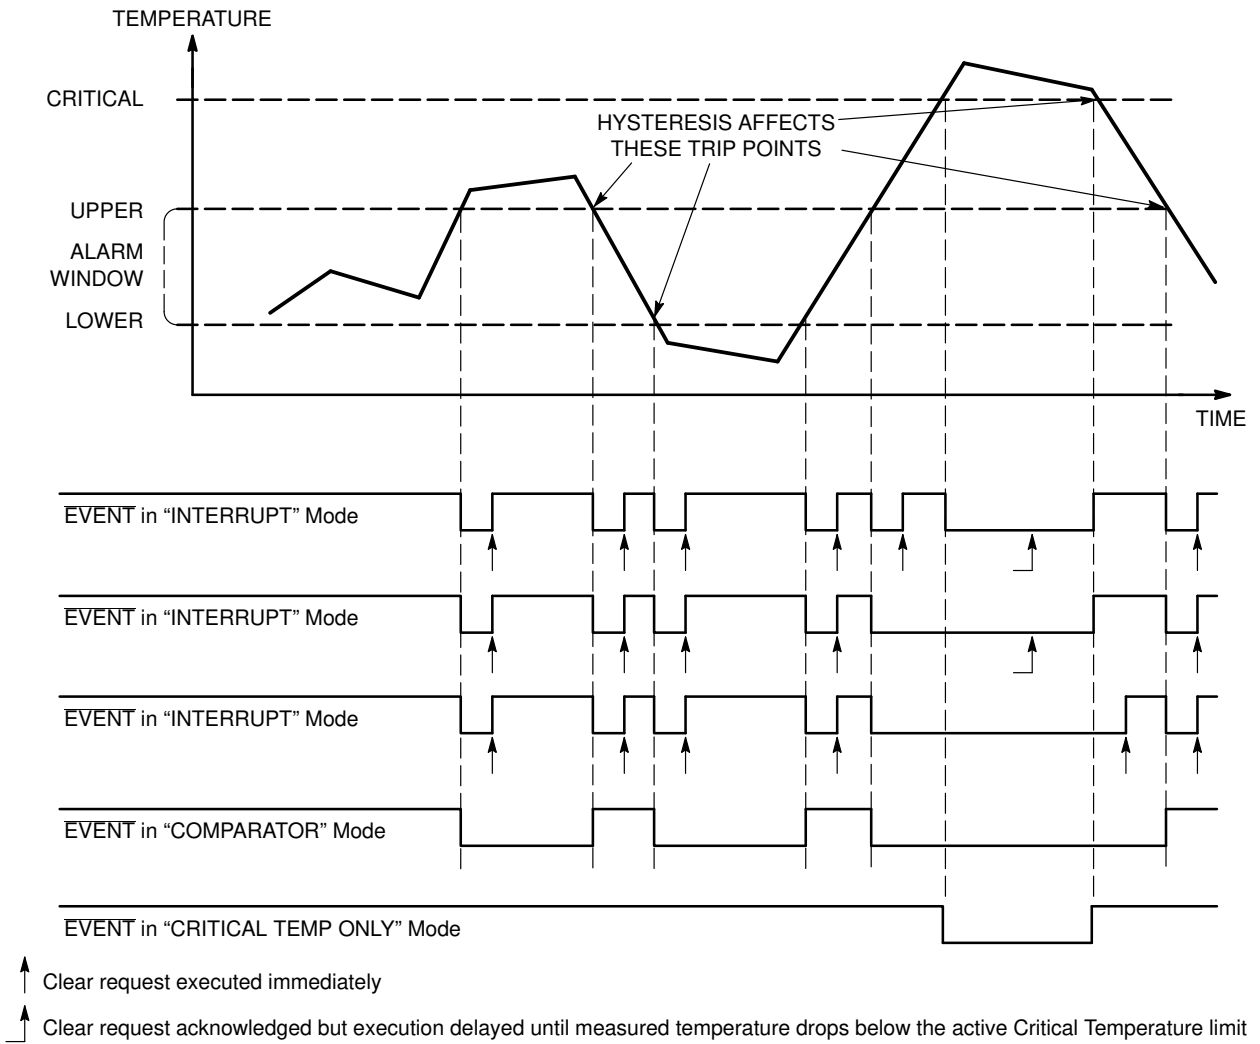

Figure 9. Event Detail
- 13. Writing a '1' to this bit clears an event condition in Interrupt mode, but has no effect in comparator mode. When read, this bit always returns 0. Once the measured temperature exceeds the critical limit, setting this bit has no effect (see Figure 9).
The $\overline{\text{EVENT}}$ output reacts to temperature changes as illustrated in Figure 9, and according to the operating mode defined by the Configuration register.